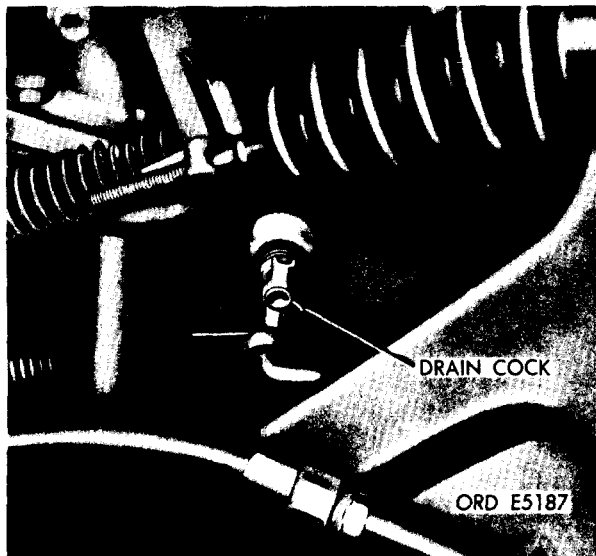

Figure 3-15. Cylinder block drain cock.
- (2) Place container under cylinder block drain cock, if coolant is to be reused. Open drain cock, as located by figure 3-15.